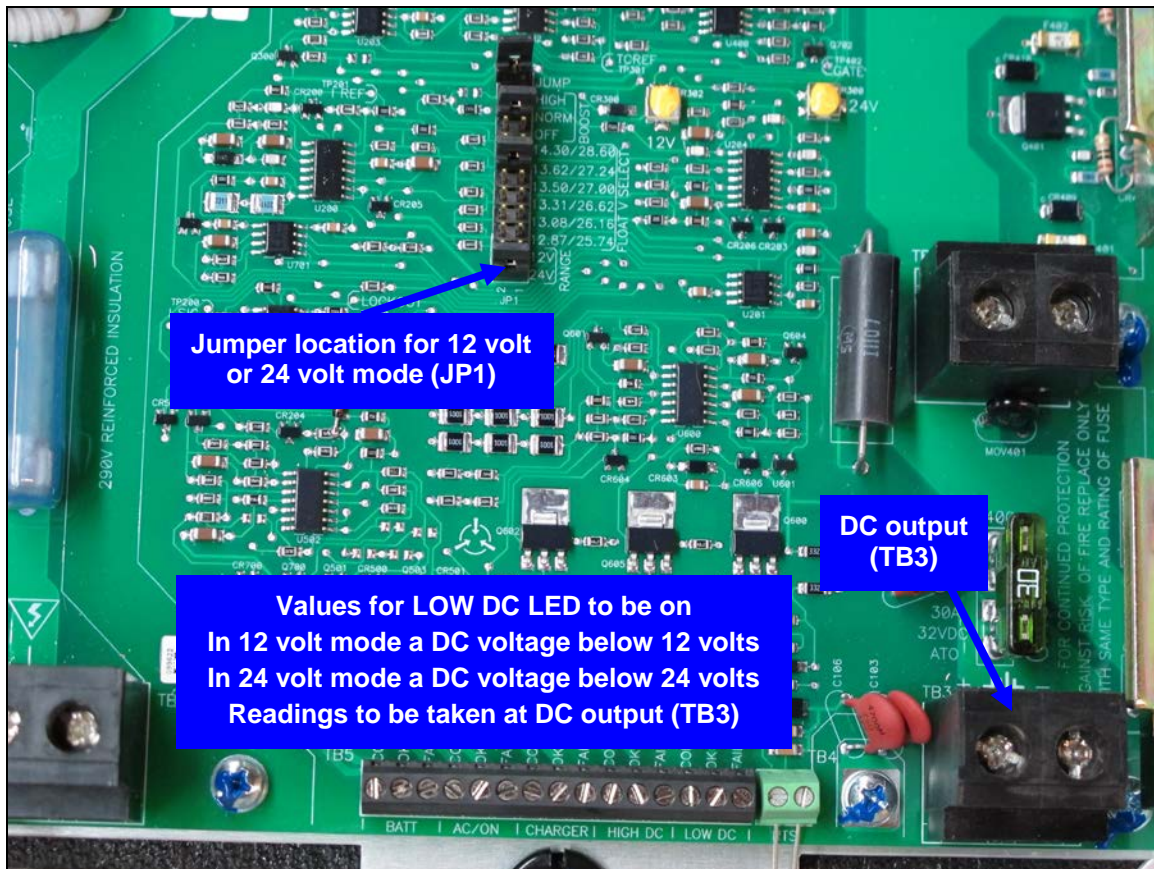

Figure 4
1. Low DC Possible Cause 1: Incorrect battery mode setting (see Figure 4)
2. Low DC Possible Cause 2: Discharged or Defective battery (see Figure 4)